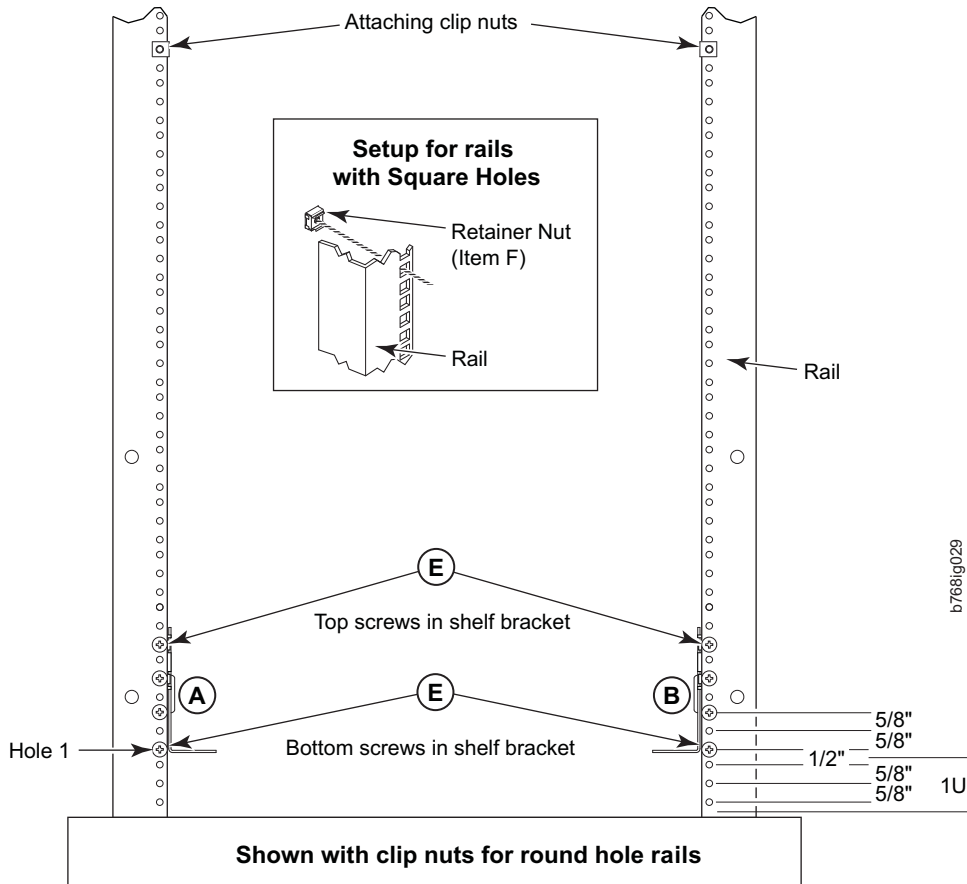
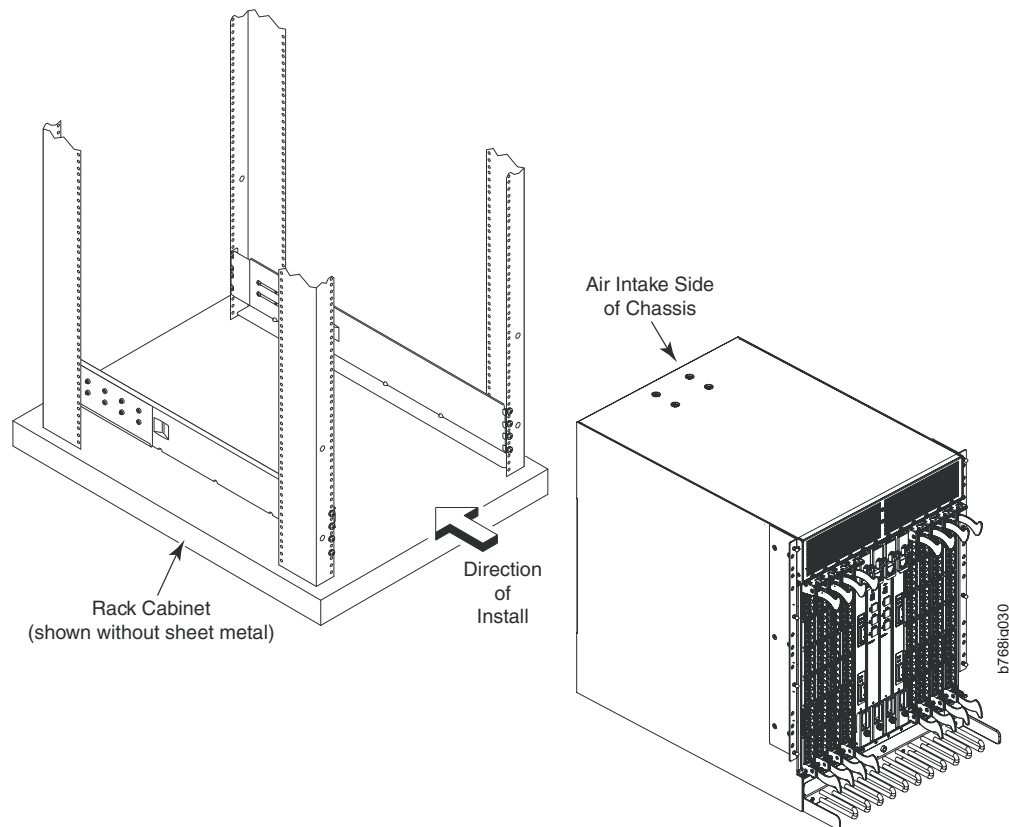

Figure 5. Installing clip or retainer nuts on the vertical cabinet rails
Figure 7. Chassis installation from rear (exhaust aisle side) of the cabinet
- Attach the clip nuts **D** (for rails with round holes) or retainer nuts **F** (for rails with square holes) to the vertical rails on the exhaust aisle side of the cabinet (see Figure 5). These nuts are used for securing the port side of the chassis to the rack rails using 10-32 x 5/8-inch screws. Use three nuts on each rail. Place the nuts in optimum locations for securing the chassis to the rails. See Figure 7 on page 20 for approximate positions.
7. Move the lift tool to a position near the rear of the cabinet. See Figure 7.